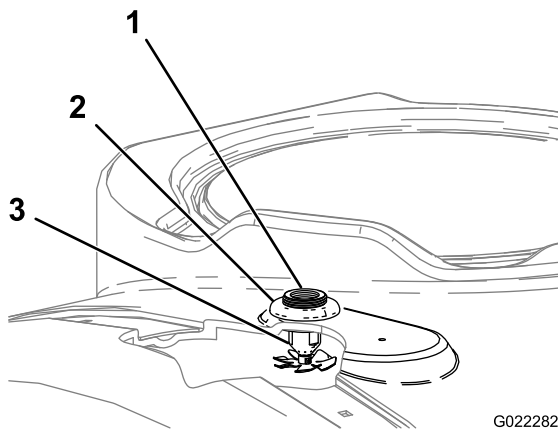

Figure 6
2. Install a nozzle assembly up through each of the drilled holes (Figure 6).
3. Install the plastic flange nut over the exposed threads of the bulkhead on top of the tank (Figure 6).